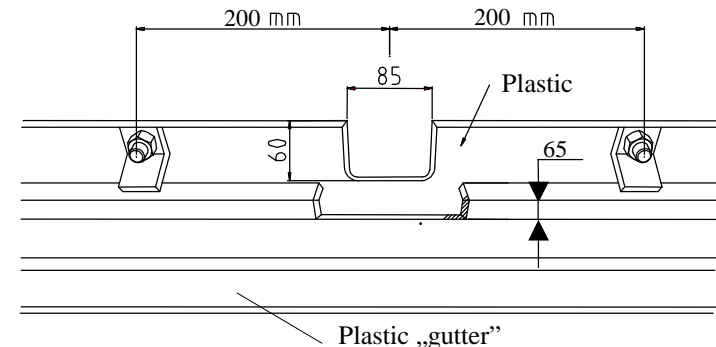

Fig 2.
3. Put main bar of the towbar (pos. 1) to chassis members and fix by bolts M12x40mm (pos. 6) in points pos. A.
5. Diassemble main bar. Fix main bar and the bumper together. **NOTE!** Cut out fragments of the bumper before join - see figure 2.
7. Fix body of the automat (pos. 10) and the socket plate (pos. 3) using bolts M12x25mm (pos. 5) from accessories. Place tow-ball (pos. 2) according to supplied instruction.